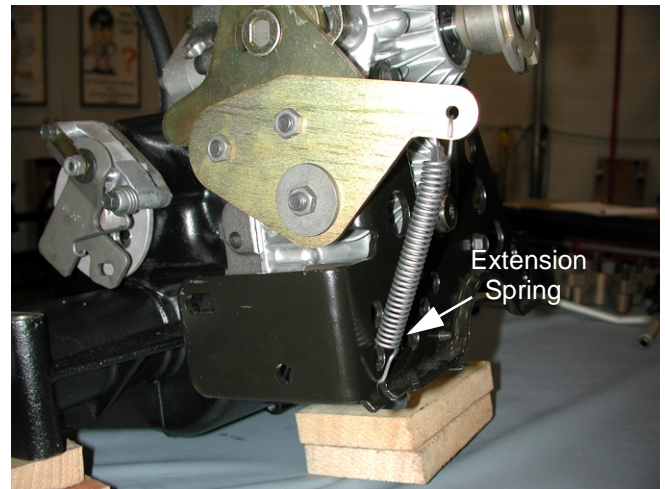

Figure 9
12. Remove the extension spring from the torque bracket using a short piece of recoil rope. See Figure 9.